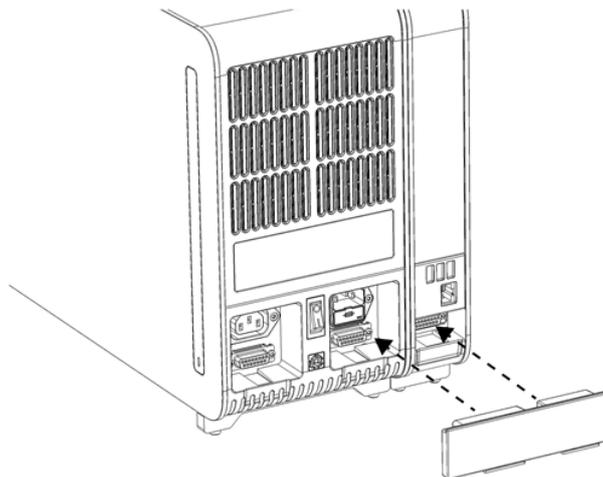

Figure 8. Connecting the Analytical/Operational Module Bridge.
5. Connect the Analytical/Operational Module Bridge at the back of the QIAstat-Dx Analyzer 2.0 to link the Operational and Analytical Modules together (Figure 8 below).